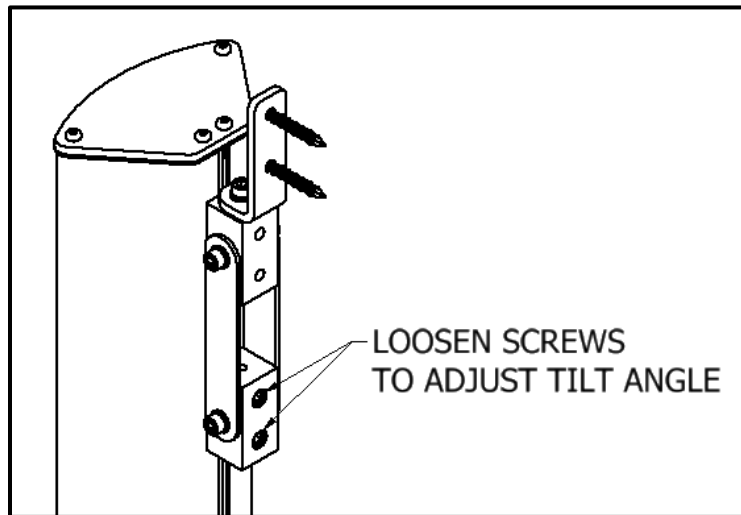

Figure 14. 90243A-803 and 90243A-804 Wall Mounting – Step 7
7. To aim the speaker down, loosen (but don't remove) the two bolts fastening the top Pivot Nub to the LineWave. Slide the Pivot Nub up and down to adjust the tilt angle to the desired orientation as shown in Figure 14. The LineWave may need to be temporarily rotated left or right in order to access the screws.